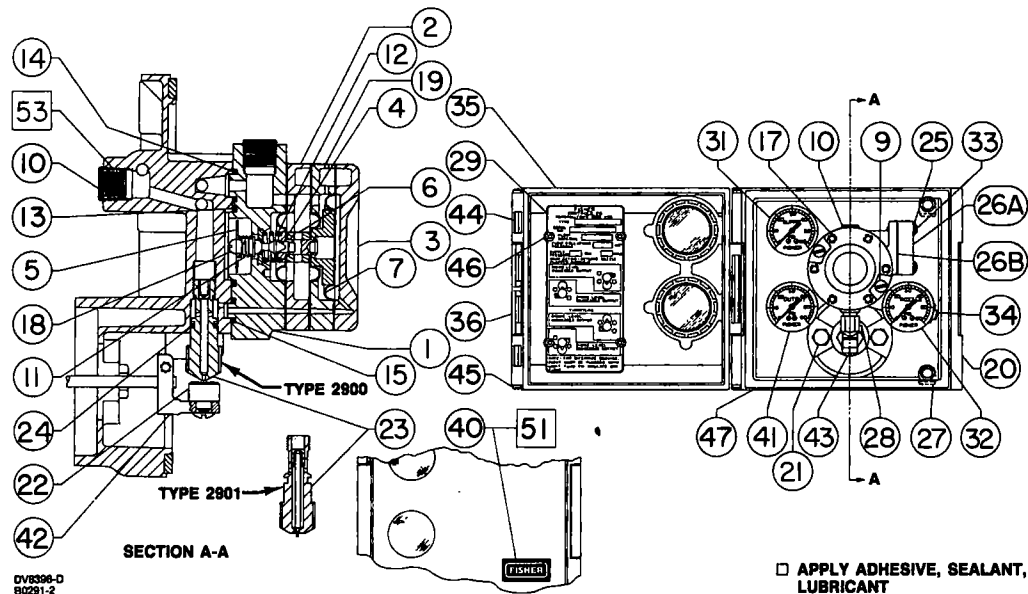

Figure 7. Type 2900 and 2901 Controllers
Instructions are given below for complete disassembly and assembly for parts replacement. Except where indicated, key numbers used in these procedures are shown in figure 7 for Type 2900 and 2901 controllers and in figure 8 for Type 2900A and 2901A controllers.
a. Open the cover (key 35, figure 7 or 8), and remove the machine screw and flapper insert (keys 43 and 22, figure 7 or 8).
b. Unscrew the nozzle (key 23, figure 7 or 8), and remove the O-ring (key 24, figure 7 or 8).
c. Loosen the machine screw (key 28, figure 7 or 8), and slide the flapper carrier (key 42, figure 7 or 8) off the flexure tube (key 2).
d. Unscrew the cap screws (key 21, figure 7 or 8), and slide the controller straight away from the mounting adaptor (key 1).